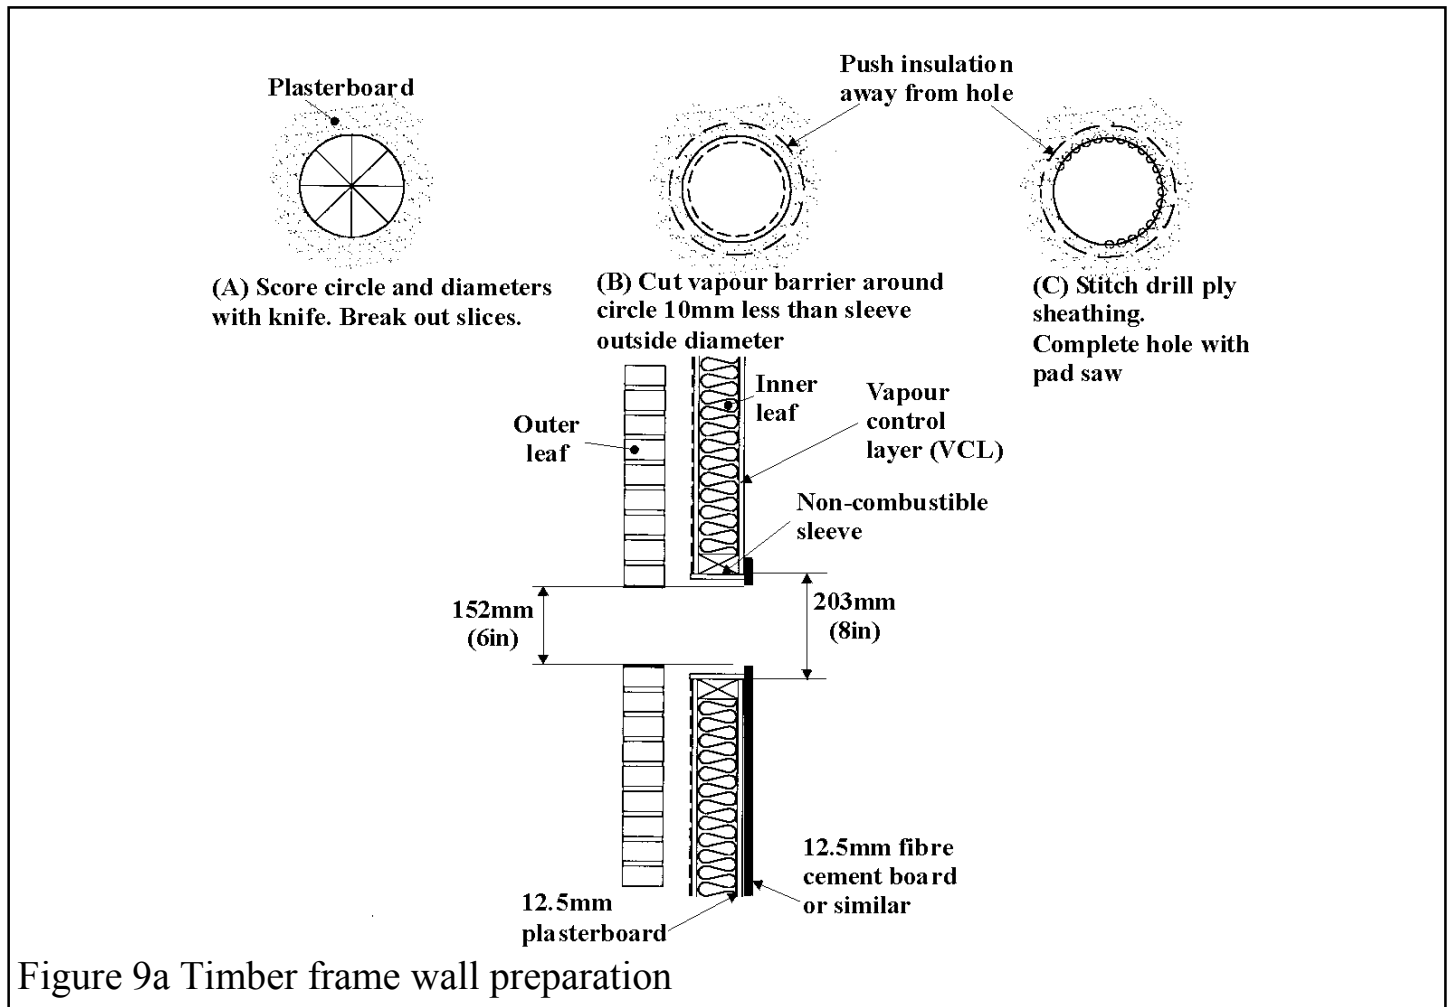

Figure 9a Timber frame wall preparation
- Since the flue will pass through combustible material in the inner leaf of the wall, a non-combustible sleeve 203mm (8in.) diameter will be required round the flue. See figure 9a.
- Cut a hole through the inner leaf to accommodate a non-combustible sleeve 203mm (8in.) outside diameter. To minimise the effect of breaking through the vapour control layer (VCL), if possible, cut the hole approximately 10mm undersize so that the sleeve will be forced through the layer. A recommended technique for cutting the inner leaf is shown in figure 9a.